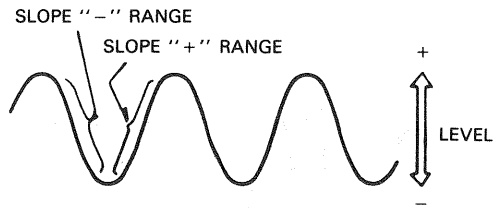

Fig. 9
Trigger point on waveform is adjusted by the LEVEL/PULL (19) control. Fig. 9 shows the relationship between the SLOPE and LEVEL of the trigger point. Triggering level can be adjusted as necessary.